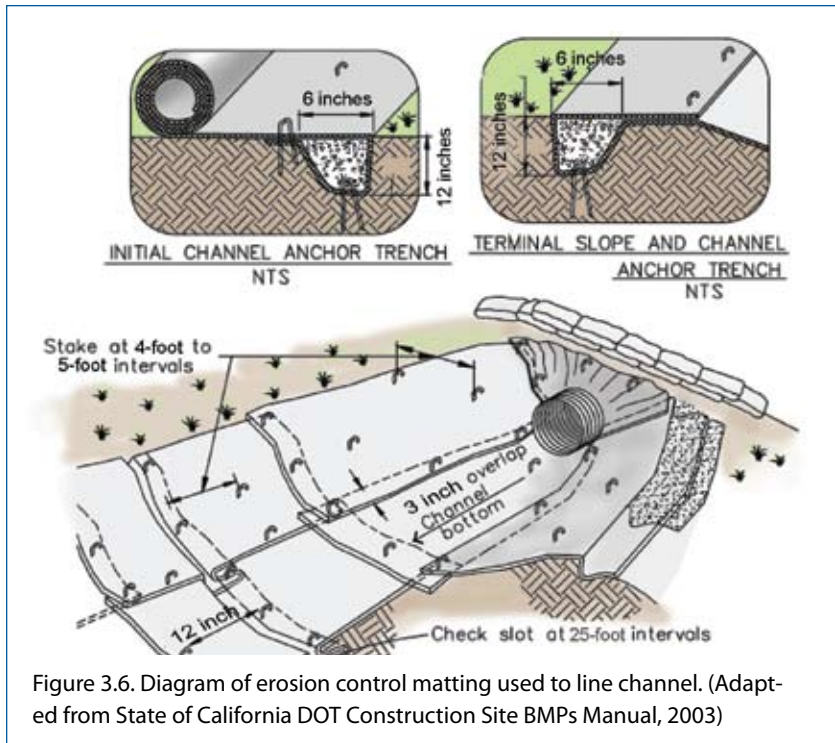

Figure 3.6. Diagram of erosion control matting used to line channel. (Adapted from State of California DOT Construction Site BMPs Manual, 2003)
- Follow manufacturer's instructions for installing erosion control matting in channels (Figure 3.6).